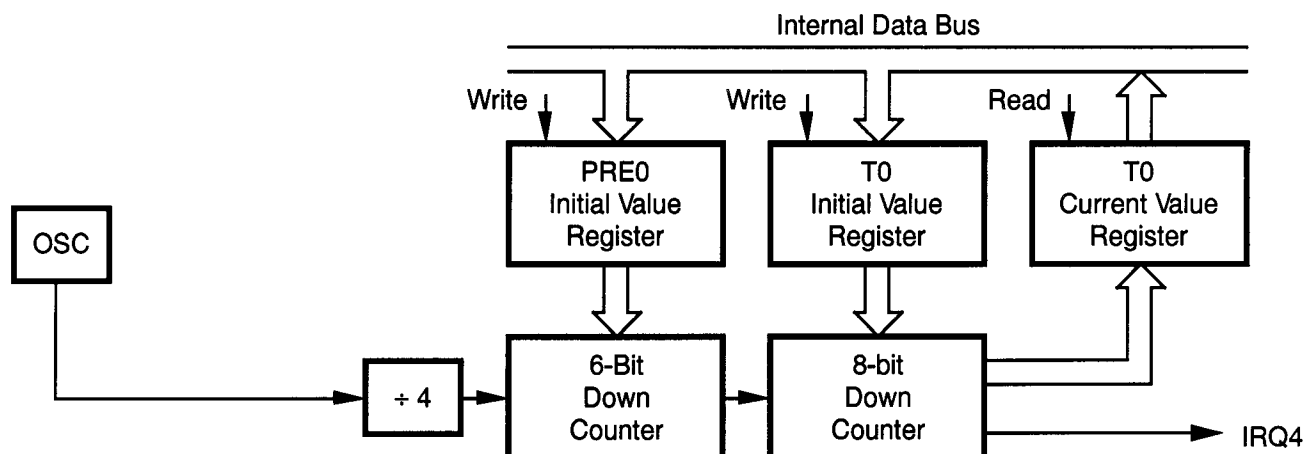

Figure 15. Counter/Timers Block Diagram
**Counter/Timers.** There is an 8-bit programmable counter/timer (T0) driven by its own 6-bit programmable prescaler (Figure 15).